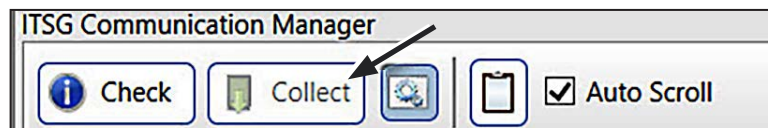

Figure 107. The Collect instant replay log button.
STEP 6. When the connection has been verified, click the **Collect** button, shown in Figure 107, to start data collection. The progress will be shown at the **Operational Log** tab and will continue to display the progress of collecting the log files until either an error is encountered or the process has been completed.